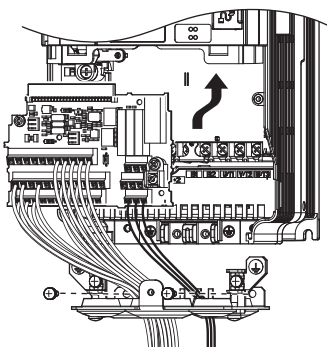

Figure 7.46 Drive Replacement: Installing the Control Terminal Board
1. After wiring the main circuit, connect the terminal block to the drive as shown in Figure 7.46. Use the installation screw to fasten the terminal block into place.